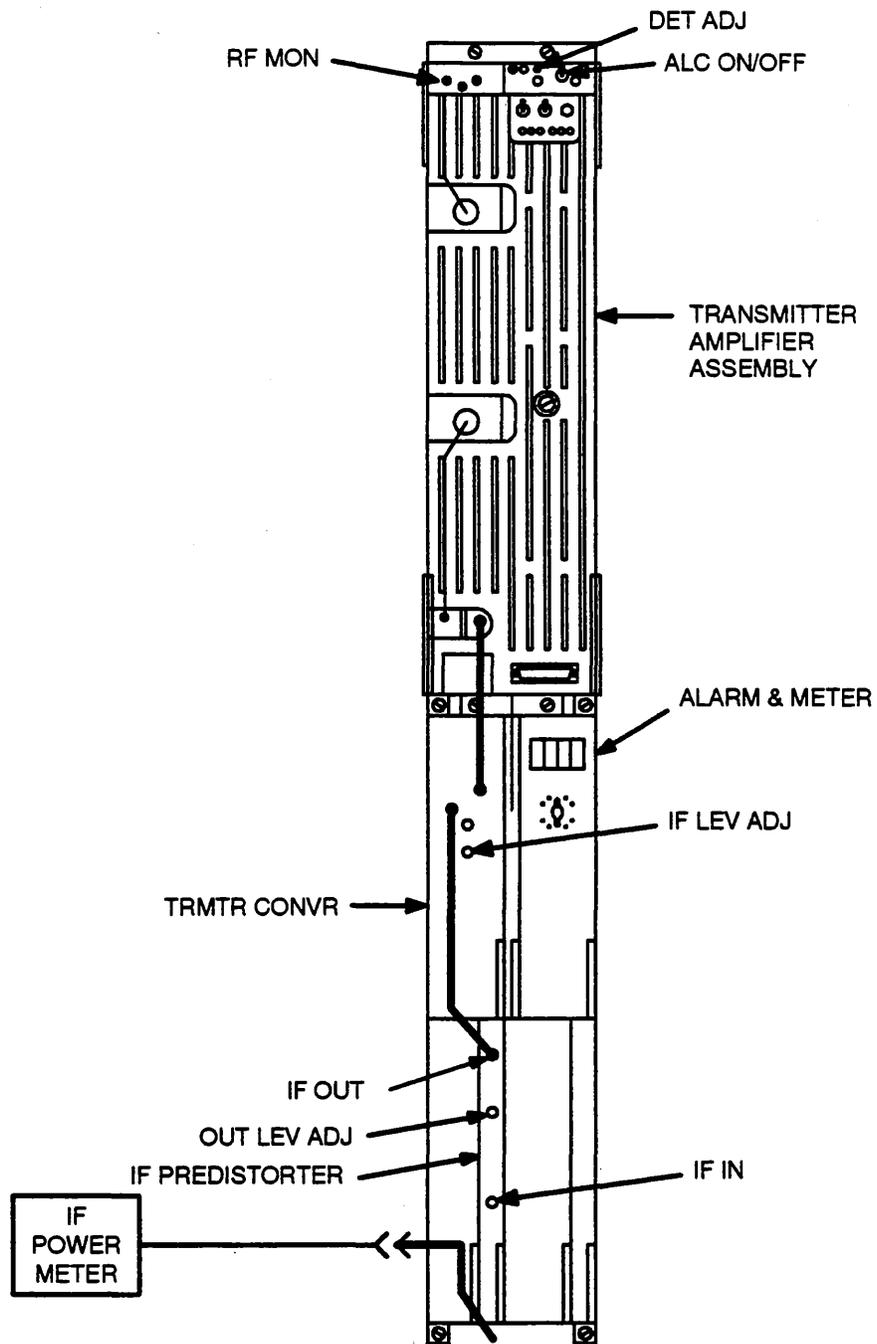

Figure 5-IF Predistorter Input Test Connections
- Refer to Figure 5.
4. Condition the power meter to measure the expected power level (normally -8.2 dBm), and connect it to the free end of the cable (Figure 5).